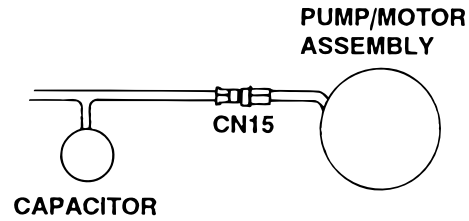

Figure 6-10.
2. Disconnect the 3 pin connector CN15 at the motor. Leave all other connectors connected. See figure 6-10.